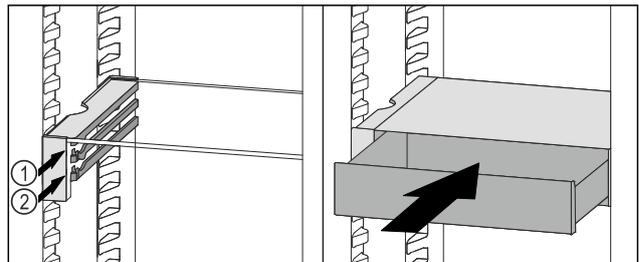

Fig. 106
- ▶ Place the VarioSafe drawer behind the stoppers on desired rib Fig. 106 (1) or Fig. 106 (2).